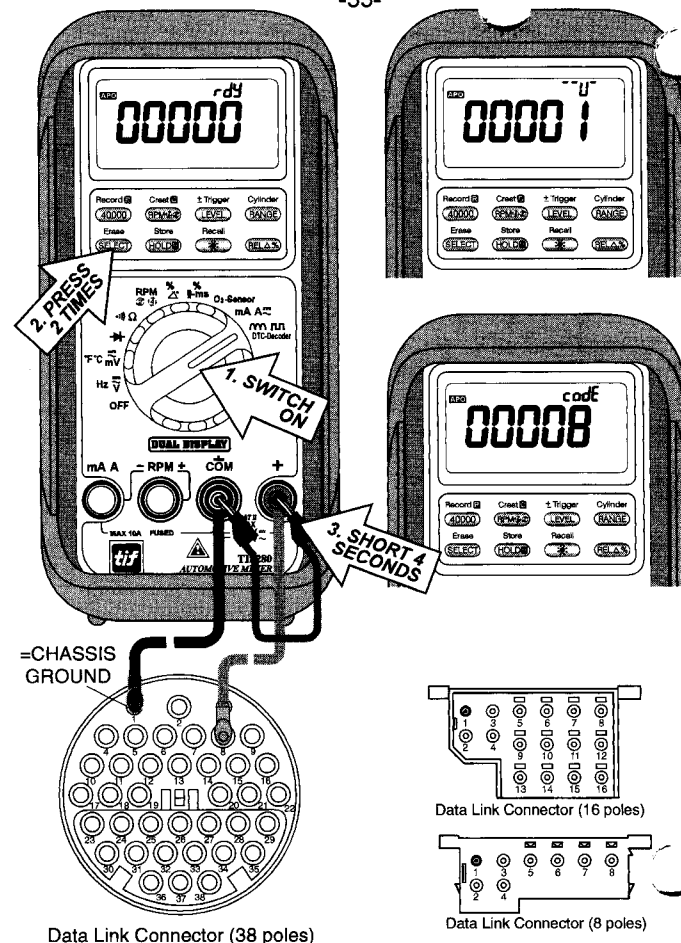

FIG 15. DTC-DECODER FUNCTION
- 3) Insert Red (+) test lead into + jack and black (-) test lead into **COM** input jack. See **FIG 15**